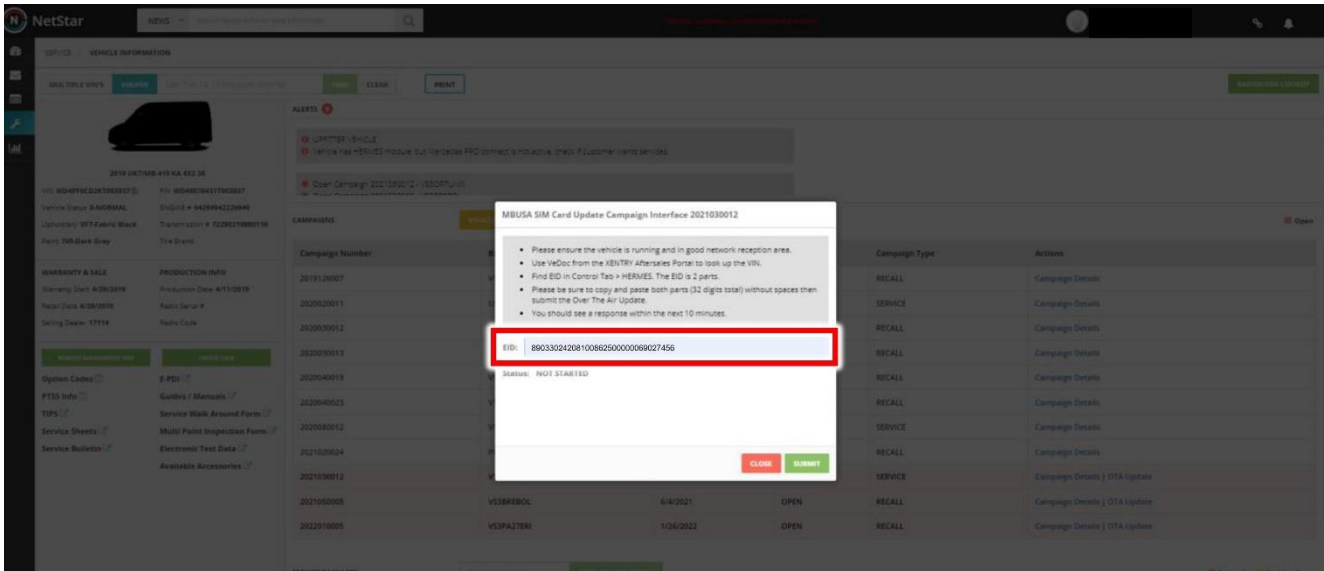

Figure 8 – EID1 + EID2 input
5. Enter the valid EID number and click on "Submit" (Figure 8).
i After you click "Submit", the following screens can be displayed depending on the results of the OTA Update: (Figures 8, 9, 10 11, and 12).